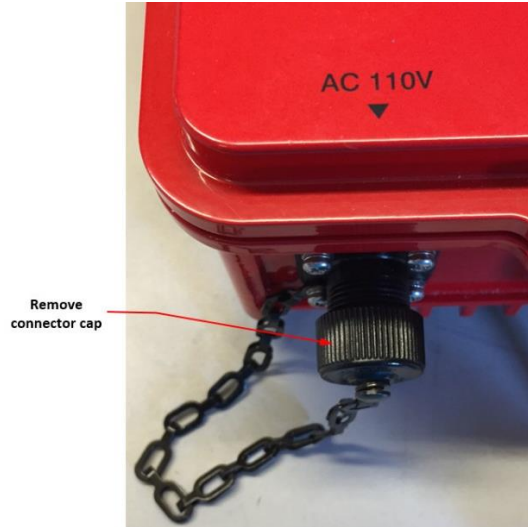

Figure 5-7: Remove the Power Connector Cap
1. Remove the cap from the AC 110V power connector on the repeater, Figure 5-7.